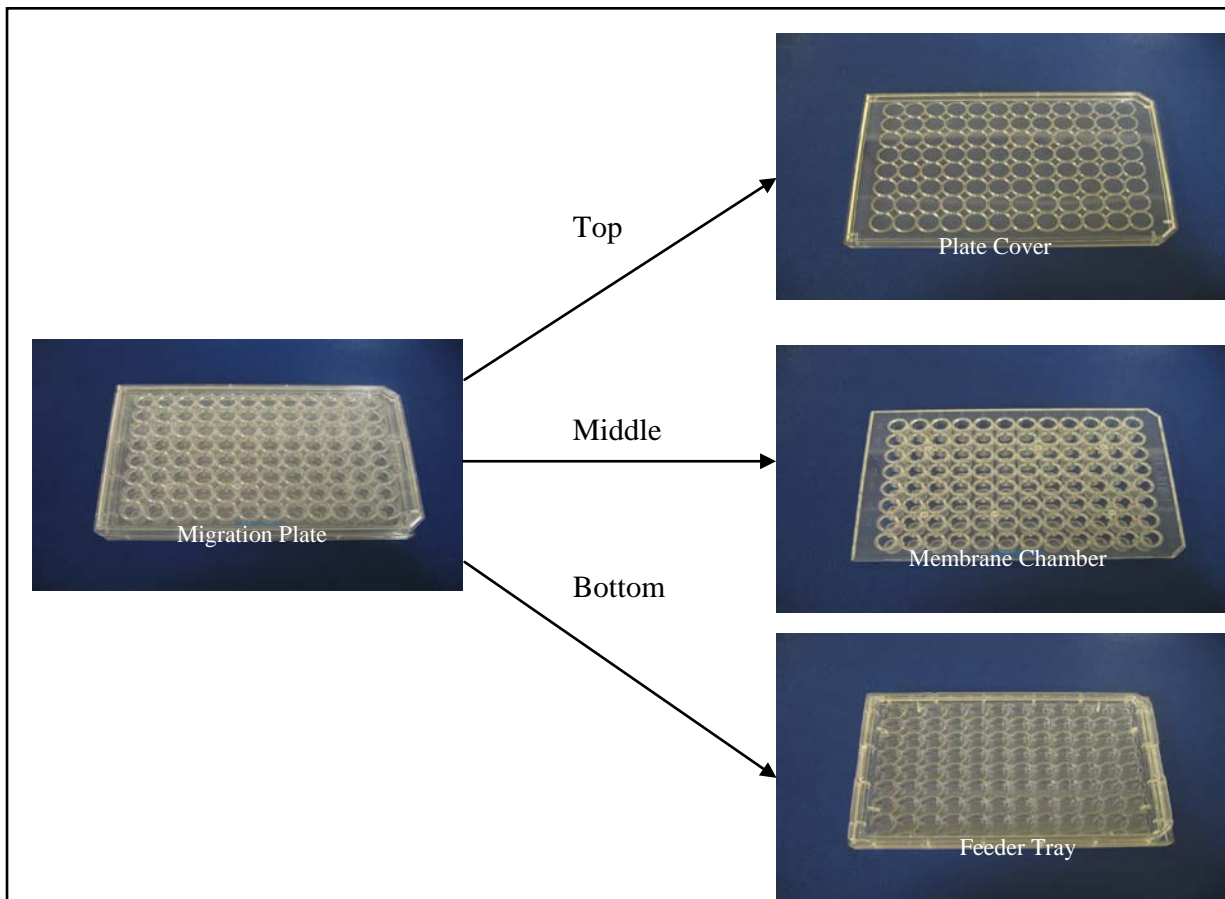

Figure 1: Components of the 96-well Cell Migration Plate.
1. 96-well Cell Migration Plate (Part No. 10401): One sterile 96-well plate (see Figure 1 for components)